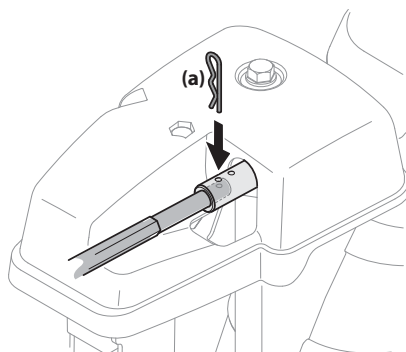

Figure 4-8
2. Pull out chute control rod until hole in it lines up with second hole in chute rotation assembly. See Figure 4-8.